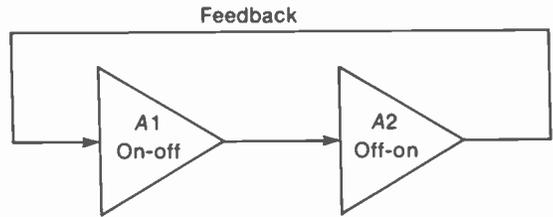

FIGURE 20-18 SWITCHING ACTION BETWEEN THE TWO AMPLIFIER STAGES IN A MULTIVIBRATOR.
The multivibrator (MV) is a pulse generator like the blocking oscillator, but no transformer is needed. As shown in Fig. 20-18, two amplifier stages A1 and A2 are used for the MV. They can be tubes or transistors. Feedback is used to